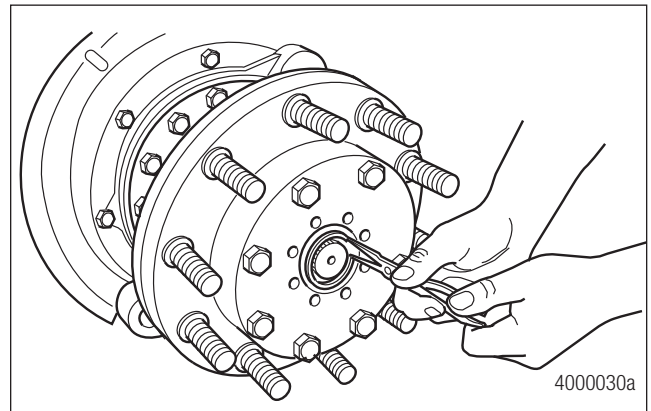

Figure 4.5
2. Remove the snap ring from the end of the axle shaft. Figure 4.5.